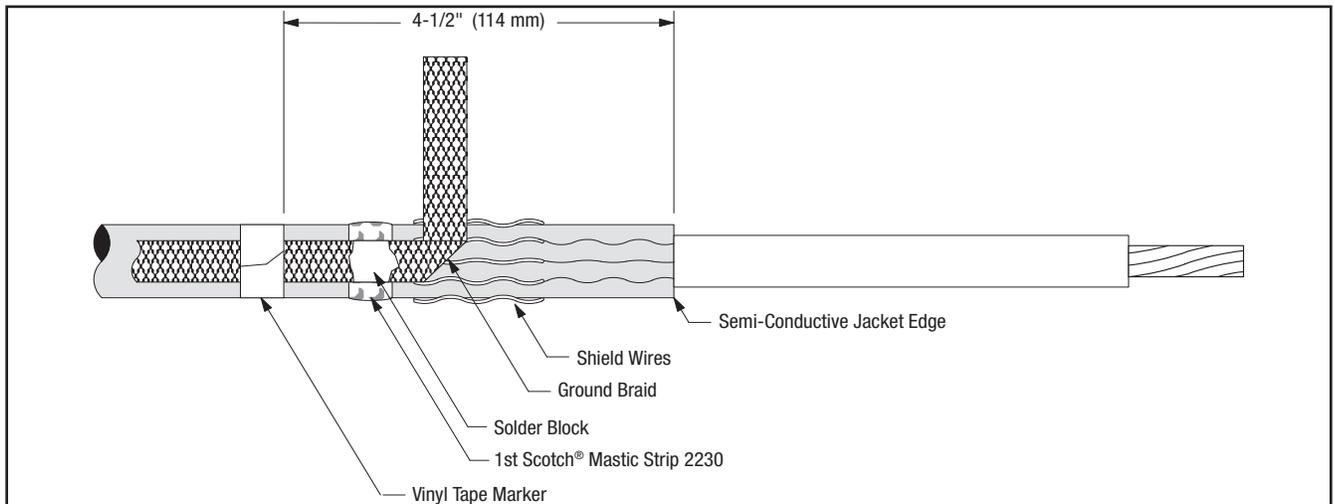

Figure 20
13.2 Position pre-formed ground braid with short tail directly over cut edge of folded back shield wires. PLEASE NOTE: The ground braid needs to make full contact with the shield wires. Position long tail of ground braid, extending over cable semi-conductive jacket with solder block over mastic strip (Figure 20). Secure ground braid to cable semi-conductive jacket **4-1/2" (114 mm)** from cable Semi-Conductive Jacket edge using vinyl tape (See NOTE and Figure 20).